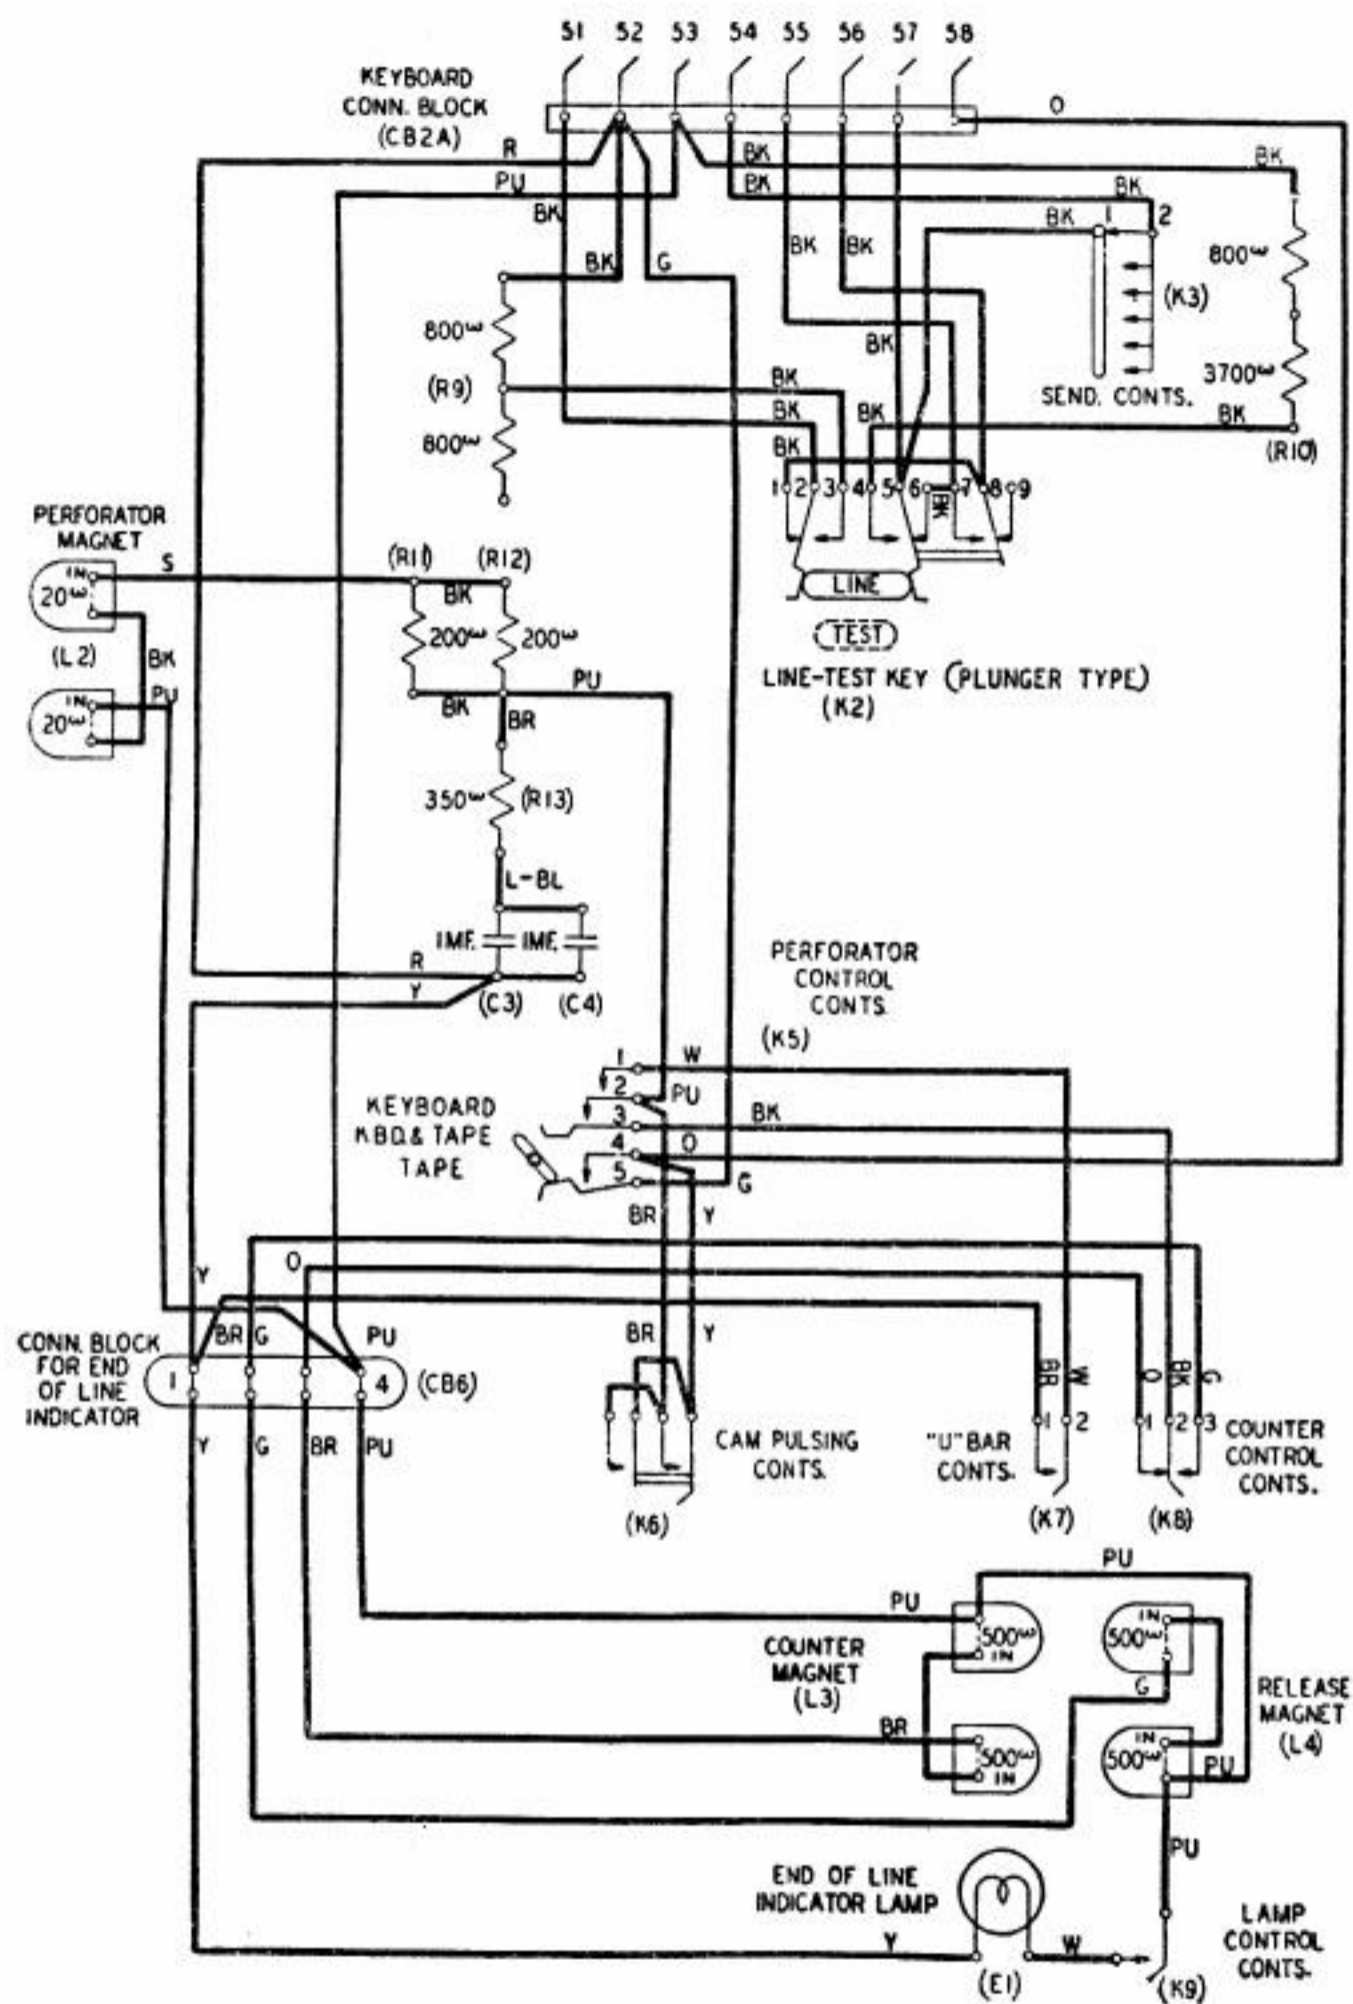
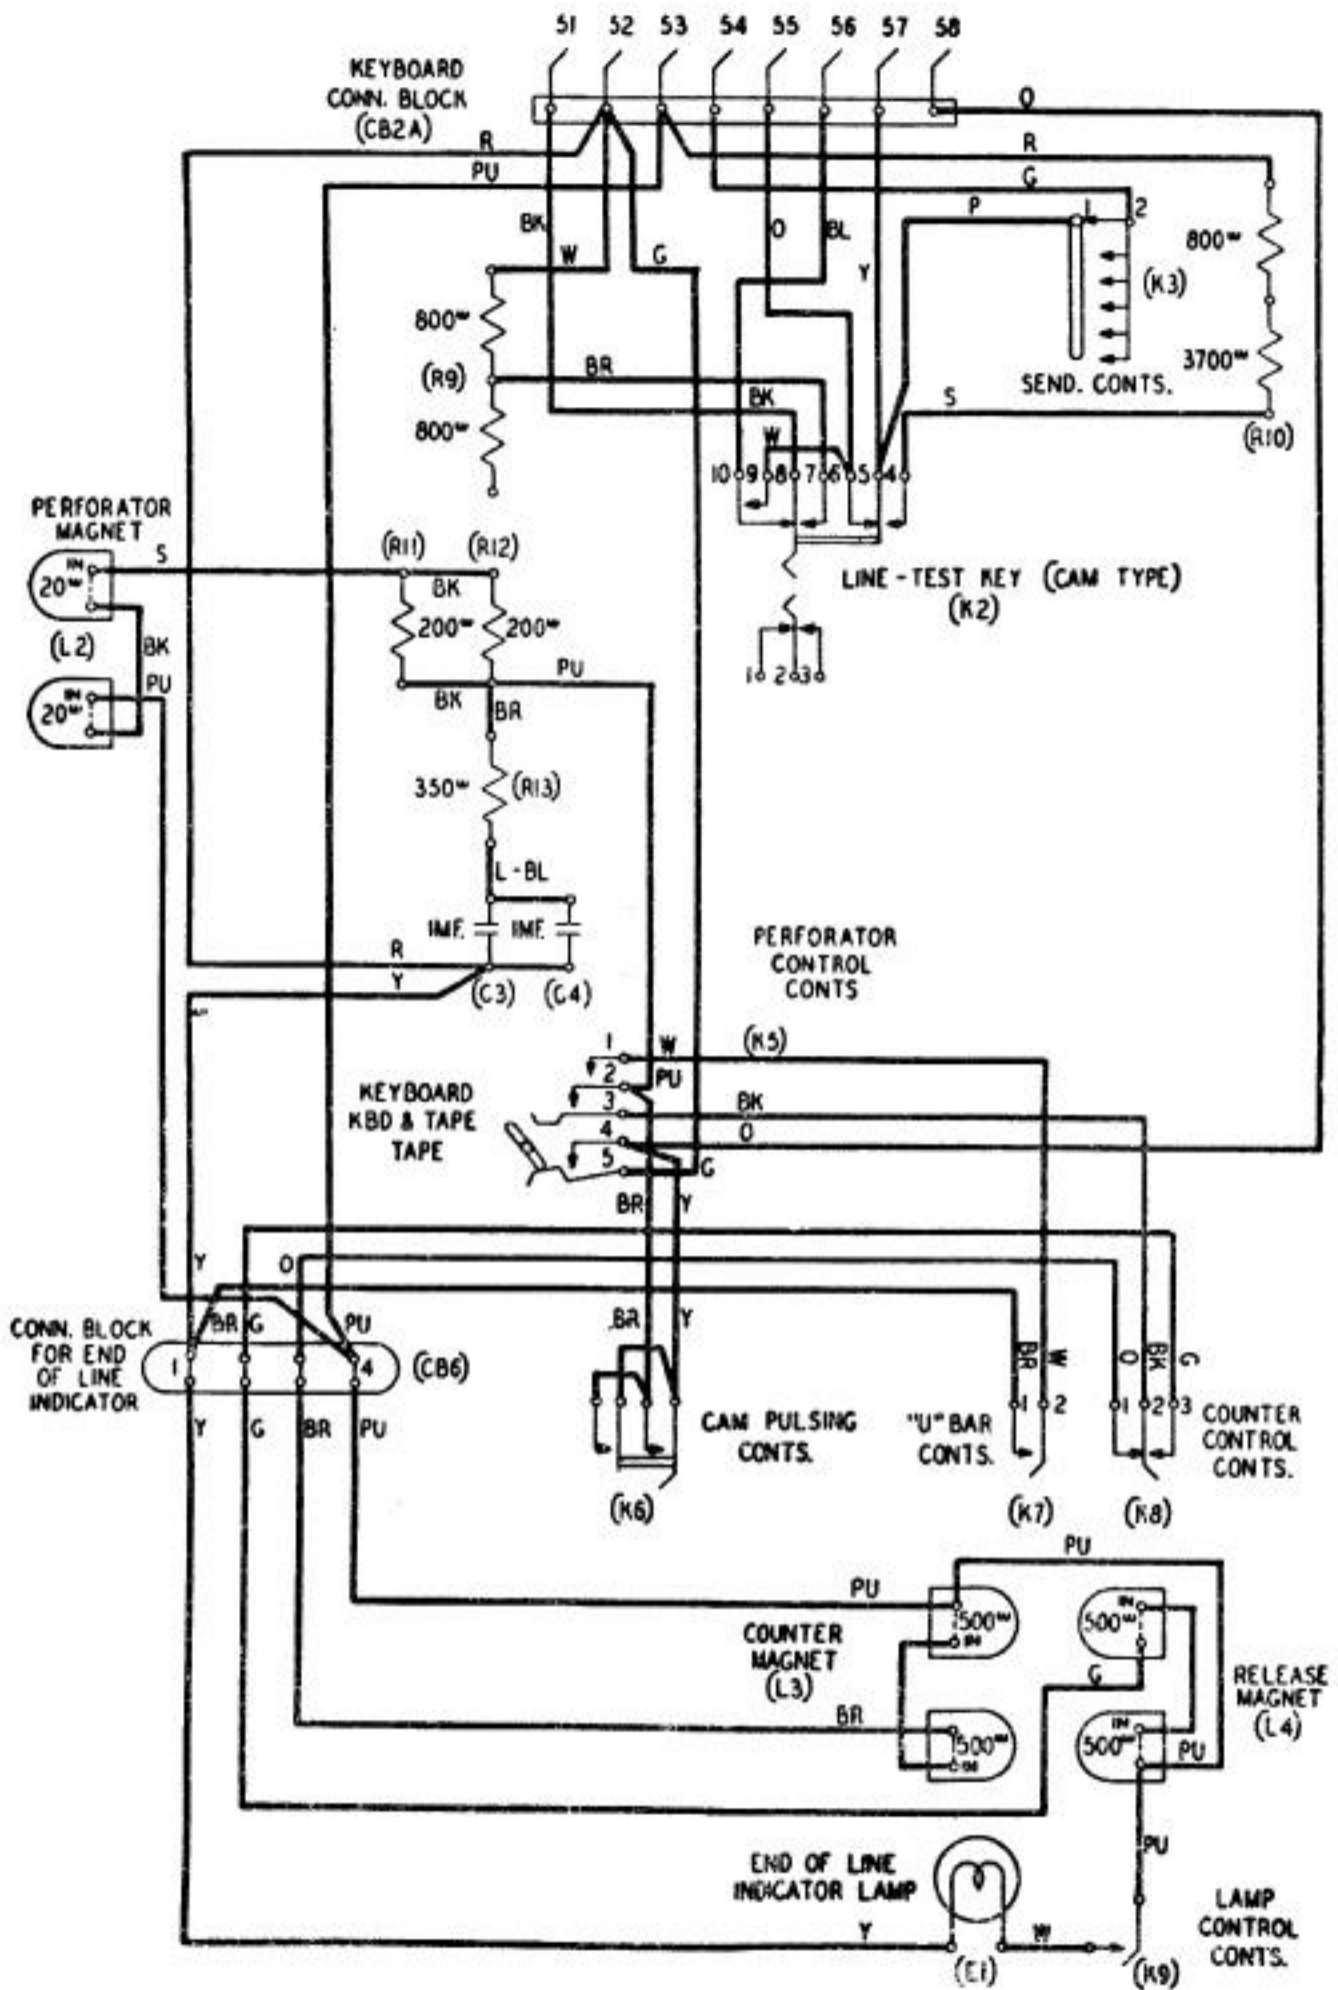

Fig. 1—No. 15 Perforator-Transmitter with End-of-Line Indicator on Right—Plunger Type Line-Test Key
Fig. 3—No. 15 Perforator-Transmitter with End-of-Line Indicator on Right—Cam Type Line-Test Key
1.03 Figs. 1 and 2 are based on Drawing ES-618992, Issue 5 and Figs. 3 and 4 are based on Drawing BR-116741, Issue 1.